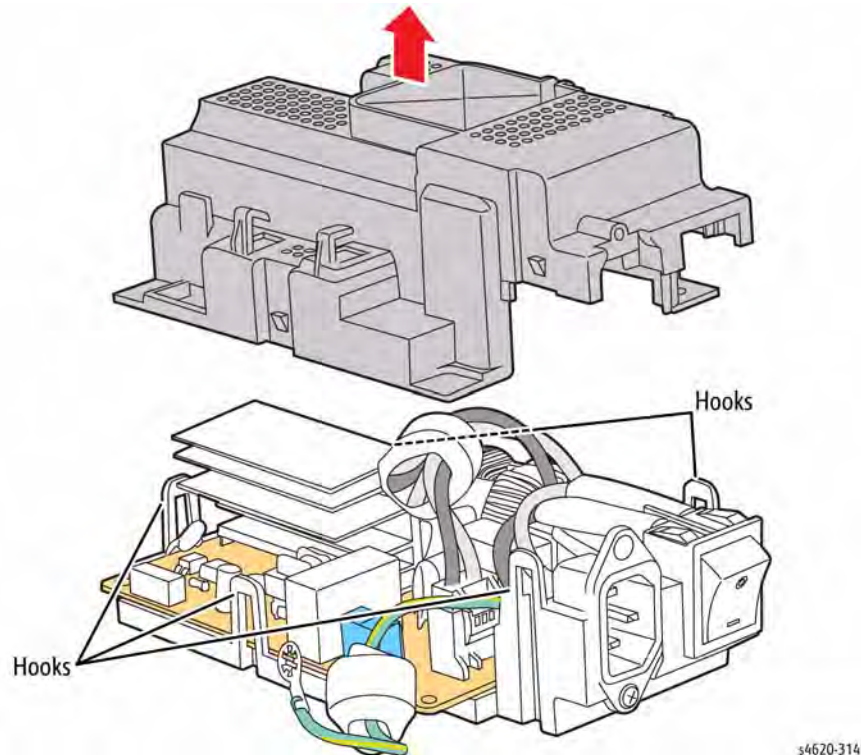

Figure 1 Remove the Fuser Drive Board
7. Disconnect the board from the harness to remove, Figure 1.